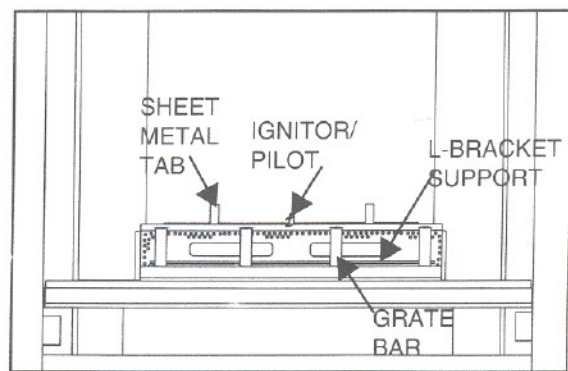
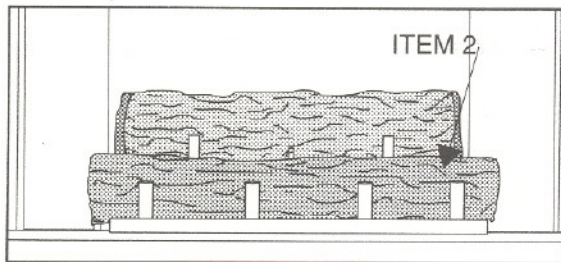

Figure 31
Figure 35
1. Make sure sheet metal tabs, located on the Back Log Support, are upright, if not, bend to the up position. See Figure 31.
3. See Figure 35. Place the Front Log (Item 2) on the L-Bracket support with the bow up. Position it so that it is balanced and is leaning forward slightly. (See Figures 31 & 33.)